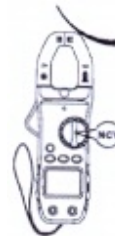

Fig.12
(1) Turn the rotary function switch to "NCV" position. When the testing circuit is placed above the meter. When the meter sensor detects voltage, the indicator lights on and the buzzer alarms (fig.12).
(2) There are 5 ranges for measuring of NCV: 0-50mV, 50-100mV, 100-150mV, 150-200mV, 250mV. For measuring results of each ranges, "LO", "-", "--", "---", "----", appears on LCD respectively.